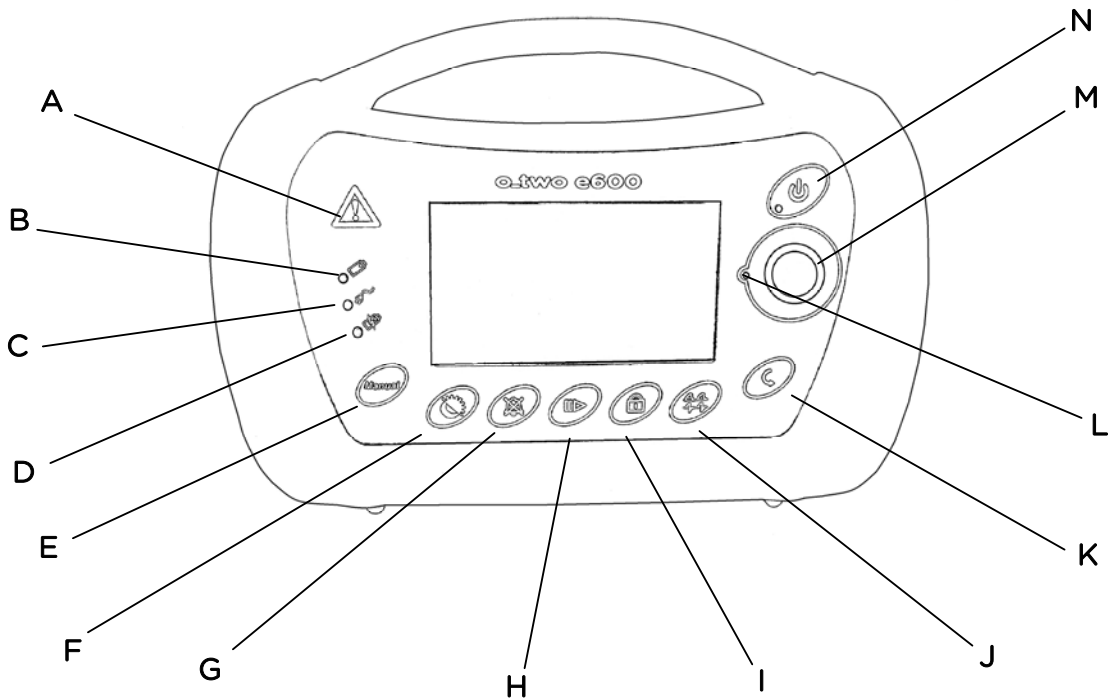

Figure 1
While all ventilation parameter settings are controlled by the Control Selection Knob (M) in Figure 1, there are a number of key membrane buttons which control additional ventilator functions:
To turn on the ventilator, Press the ON/OFF button (N) in Figure 1 for one second, during that second the associated green LED will start flashing at a high frequency. After 1 second the ventilator will turn on but without ventilation until the appropriate patient size symbol is selected. If the button is pressed and released for less than a second, the ventilator will remain OFF.
The Control Selection Knob (M) in Figure 1 is used to navigate between parameters, change modes, select primary function change when rotated, and to confirm function changes when pressed. Diagram below illustrates path of cursor when Control Selection Knob is rotated clockwise.
- 1- Press Lock button (I) in Figure 1. The Lock symbol will be displayed on the screen.
- 2- To cancel the Lock function, press the Lock button (I) again.
Alarm Silence button (G) in Figure 1 will silence audible alarms for 120 seconds. It can also be selected when there is no alarm in order to silence potential alarms. This function is activated or deactivated by pressing the Alarm Silence button once.
Pressing Waveform selection button (J) in figure 1 will switch between the pressure and volume ventilation waveforms displayed on the screen.
Day/ Night mode button (F) in Figure 1 will change brightness and contrast of the text, waveform and background colors. The user can select either one of the following by pressing the Day/ Night button once:
The Cancel button (K) in Figure 1 allows the operator to return to the previous settings if the last unconfirmed changes in settings are not required.
During activation of the Pause/ Resume button (H) in Figure 1, the ventilator will stop ventilating with all buttons kept active (if they are not locked) except Manual/ Hold button.
- a. During Pause, there will be an audible alarm associated with the flashing yellow Warning indicator (A) in Figure 1 every 15 seconds. Users can press Alarm Silence button to disable the audible alarm for 2 minutes but the yellow Warning indicator will continue flashing every 15 seconds.
4. To cancel Pause function, press Pause/ Resume button (H) again. The "Resume" symbol will flash on the screen with the confirmation symbol  and the Confirmation indicator (L) to guide users to resume ventilation by pressing the Control Selection Knob (M).
During exhalation phase, if Manual/ Hold button (E) in Figure 1 is pressed, a mandatory breath will be initiated and either the flow rate or set pressure control parameter will be delivered as long as the Manual/ Hold button is pressed or until I-time setting is achieved.